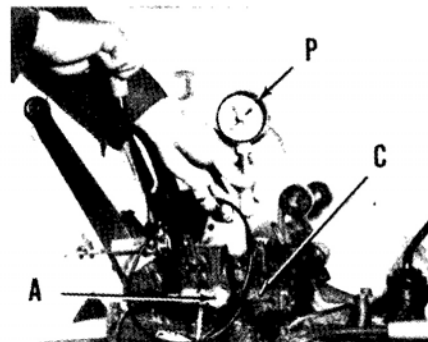

Fig. 93—View showing special Kubota adapter (A) and pressure gage (P) (Tool kit 07916-50041) installed in control valve (C) pressure line inlet. Refer to text.
91. **RELIEF PRESSURE.** Install special Kubota adapter (A—Fig. 93) and pressure gage (P) (Tool kit 07916-50041) or suitable equivalents. Start engine and allow fluid to warm up to 49°C (120°F) (warm to the touch), then move control lever to full up position while observing the pressure gage. Pressure reading should be 10.8-11.8 MPa (1570-1710 psi). Adjust pressure by varying shims (24—Fig. 101). Adding one 0.3 mm